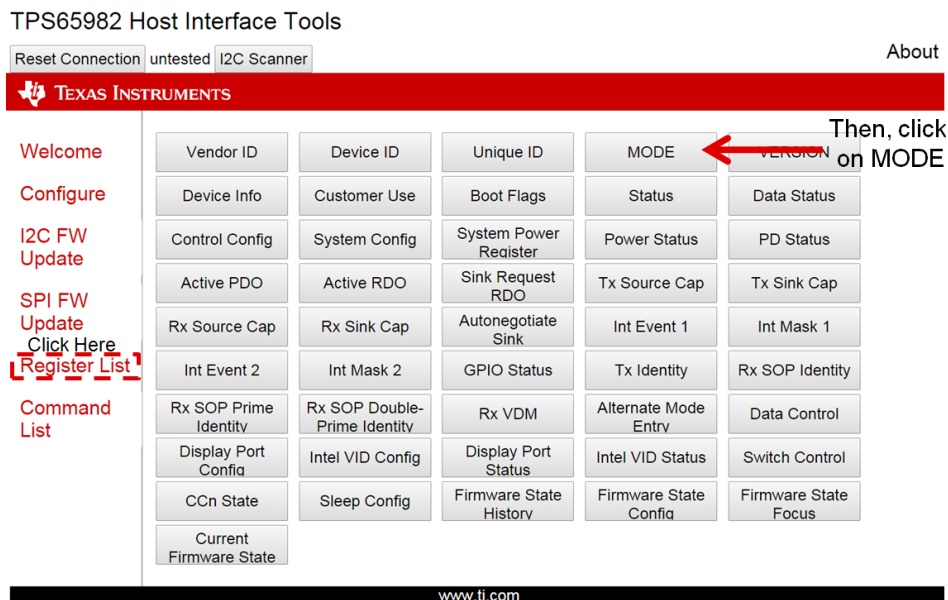

Figure 20. Register List
- Step 7. On the TPS6598x Utilities GUI, click the *Register List* link on the left side of the GUI and then click *MODE* (see Figure 20). This register will check the I²C communication and verify that the firmware was loaded on the EVM.